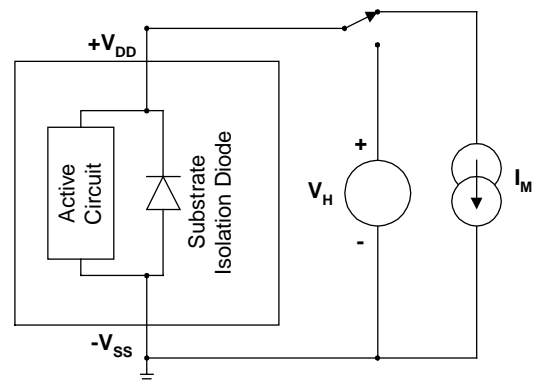

Figure 1
Figure 1 shows the measurement circuit for a typical integrated circuit (IC). Most ICs consist of an active circuit with many individual transistors and resistors that are combined together to perform a specific function. The individual elements of the circuit are isolated from each other by use of a reverse-biased diode isolation. The substrate isolation diode can be used to sense junction temperature by monitoring its forward voltage under a small bias current. Knowing the relationship between the forward voltage and junction temperature, referred to as K Factor, allows for changes in voltage to be converted to changes in junction temperature.